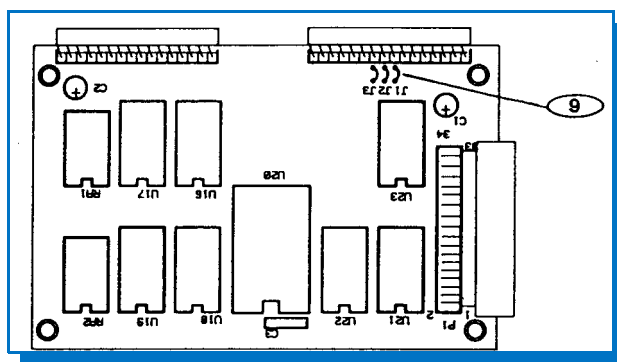

Figure 1-4 Display Printed Circuit Board.
3. With the plate removed you will see the display printed circuit board (Figure 1-4). Locate (9), jumpers J1, J2, and J3.